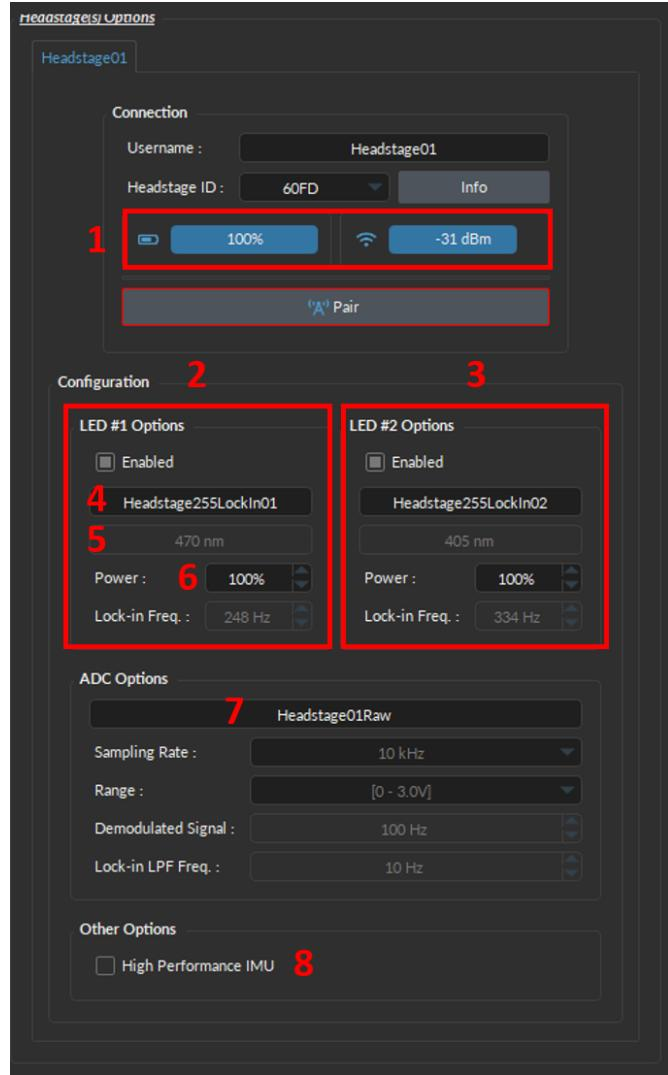

Figure 2.7: Headstage settings
5. Once a headstage is selected, the **battery level** and **signal quality** are displayed (Figure 2.7, 1).
- Once headstage is selected, the LED’s information will be displayed in a dedicated box (Figure 2.7, 2,3). Verify the wavelength of each LED (Figure 2.7, 5), and if desired, change the default Lock-in signal name to something more intuitive (Figure 2.7, 4).
The power percentage is also displayed in each LED box (Figure 2.7, 6). You can select an initial power percentage here; however, you will need to measure the actual power output using a power meter later and adjust the value if necessary. The lower the power of the LED used, the longer the headstage battery will last.
- Below the LED information, the default name for the raw signal is displayed. This can be modified by the user if desired (Figure 2.7, 7).
- If you need to record the angular velocity of head movement, you can enable **High Performance IMU** option (Figure 2.7, 8). Acceleration data is always recorded by default. Note that enabling angular velocity recording may slightly increase battery usage.